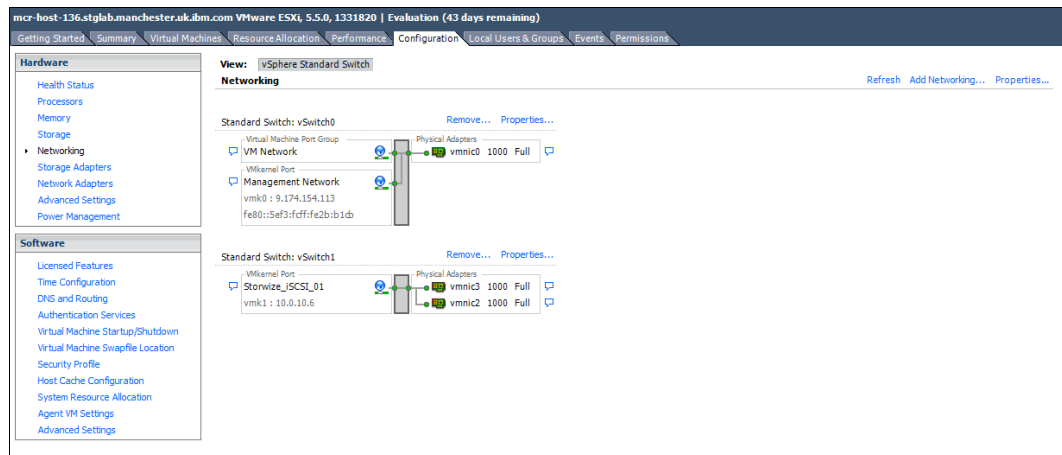

Figure 4-22 The network Configuration page with the newly created vSwitch and VMkernel port
9. Click **Next** to see what is added to the host network settings and **Finish** to exit from iSCSI configuration. The network configuration page should now look like Figure 4-22.